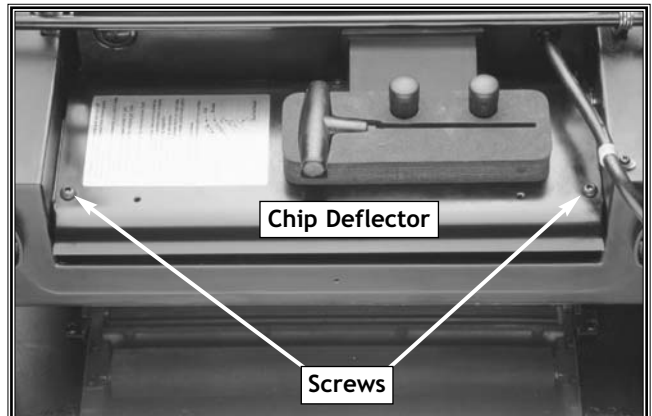

Figure 16. Remove the screws and chip deflector.
3. Use the T-handle Allen® wrench and remove the two screws, and remove the chip deflector as shown in Figure 16.